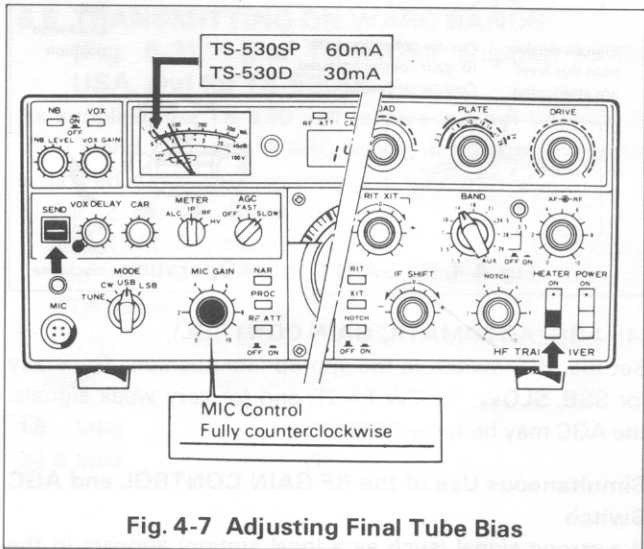

Fig. 4-7 Adjusting Final Tube Bias
4. Place the STAND-BY switch to SEND and adjust bias to 60 mA (TS-530SP) or 30 mA (TS-530D) with the BIAS control on the rear panel, Fig. 4-7.